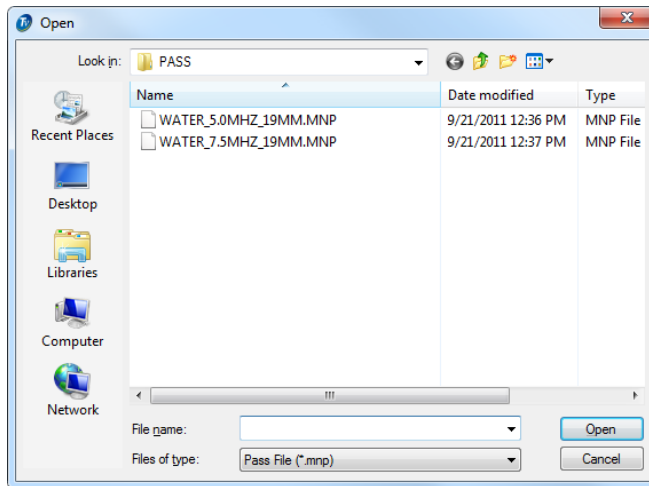

Figure 10-1 The Open dialog box for opening a PASS file
3. In the **Open** dialog box that appears (see Figure 10-1 on page 446), select the PASS file you want to open, and click **Open**.